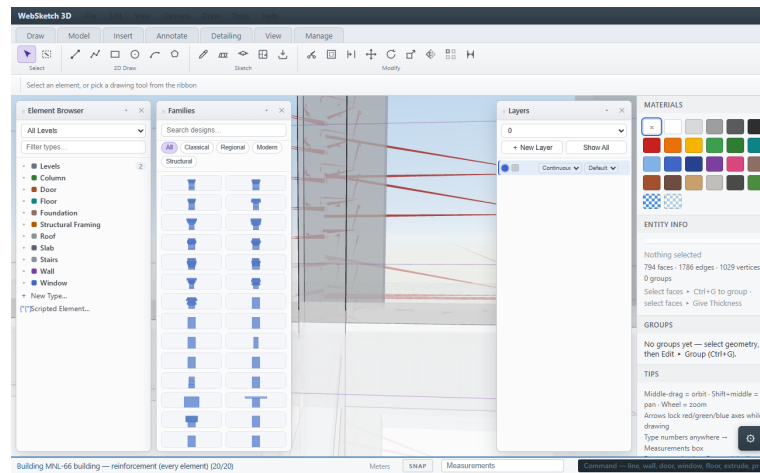

Figure 4-3 - WALL-100A: wall starter dowels hook into the slab and lap the wall verticals.
- **Wall - slab:** L-dowels from the slab lap the wall verticals (Fig. 4-3).